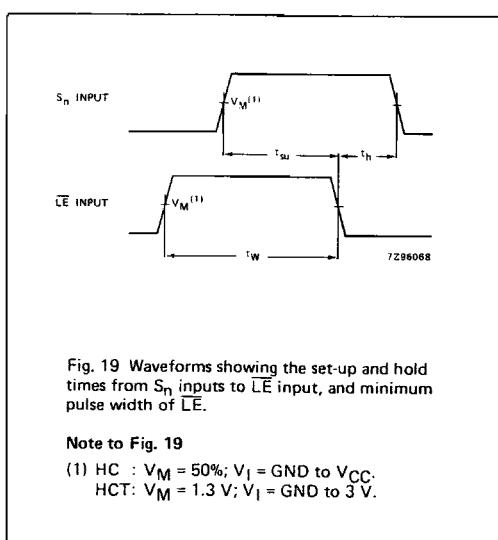

Fig. 19 Waveforms showing the set-up and hold times from  $S_n$  inputs to  $\overline{LE}$  input, and minimum pulse width of  $\overline{LE}$ .
**Note to Fig. 19**
(1) HC :  $V_M = 50\%$ ;  $V_I = \text{GND to } V_{CC}$ .